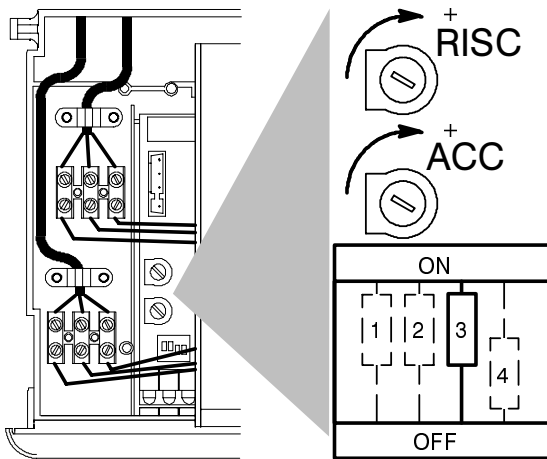

Fig. 7.8
- 14 Check the ignition gas pressure by setting dip-switch "3" (Fig. 7.8) to the OFF position. Compare the value on the gauge with the value indicated in the sections 4.6 or 4.7 (gas pressures at the burner), accordingly with the model of boiler installed.
- To adjust the ignition gas pressure, set dip-switch "3" (Fig. 7.8) to the OFF position and adjust potentiometer marked "ACC" with a screwdriver until correct ignition gas pressure is obtained.
With the boiler operating in c.h. mode, use a suitable screwdriver to turn the adjustment potentiometer marked "RISC" (Fig. 7.8). Rotating the potentiometer anti-clockwise reduces the maximum supply current to the gas modulator device, and thus reduces the gas pressure to the burner.